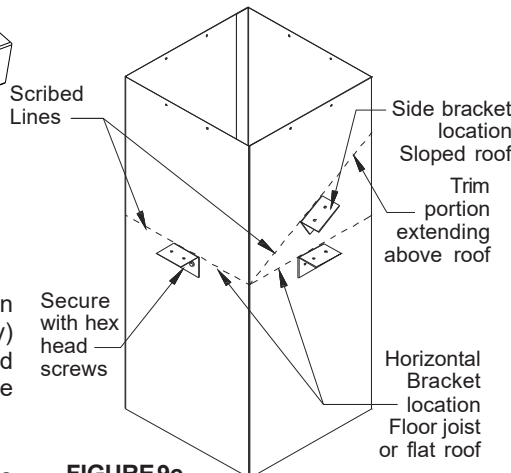

FIGURE 9c - Bracket Location on Ceiling Support
NOTE: The 4 L-brackets mount on the outside of the box (at the desired elevation per Figure 9c) and will set on the top of the framed opening.
5. Remove the box and brackets. Using the scribed lines created previously, place a bracket on each of the outside faces of the box so that the top edge of the bend in the bracket is in alignment with the scribed line and the bracket is centered on the outside face of the box (see Figure 9c). Secure each bracket to the box (with two self-tapping, hex head screws) through the holes provided in the bracket and into the wall of the box.